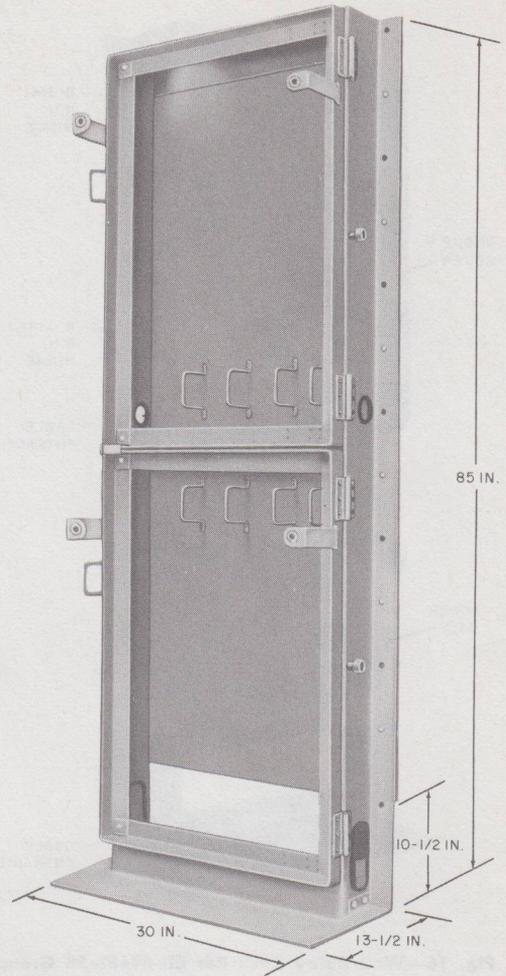
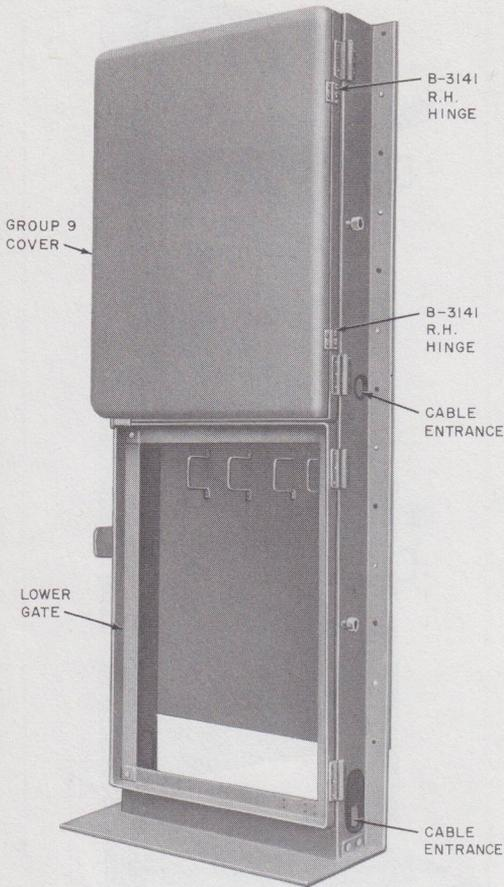

Fig. 15—Wall Relay Rack Per ED-69463-50 Group 1 (MD)
Fig. 16—Wall Relay Rack Per ED-69463-50 Group 8 With One Group 9 Cover on Upper Gate
2.16 The wall relay rack per ED-69463-50, Group 1 (MD) (Fig. 15) and ED-69463-50 Group 8 (Fig. 16) are steel relay racks designed for centralized installations of key telephone equipment. They consist of two gates hinged on the right side and mounted on a steel frame. Each gate may be swung open independently after the rack is securely fastened. Rear of frame is covered with a 3/4-inch plywood backboard for mounting cable distribution rings, connecting blocks, etc.